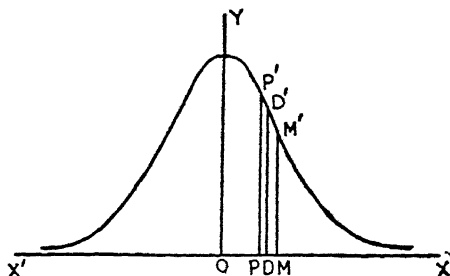

FIG. 7.
Graphic Method. These may be illustrated graphically by use of the probability curve (Fig. 7).
2. Assume that the lines OP , OD , and OM are drawn to scale in Fig. 7, and compare their relative lengths with the results of No. 1.